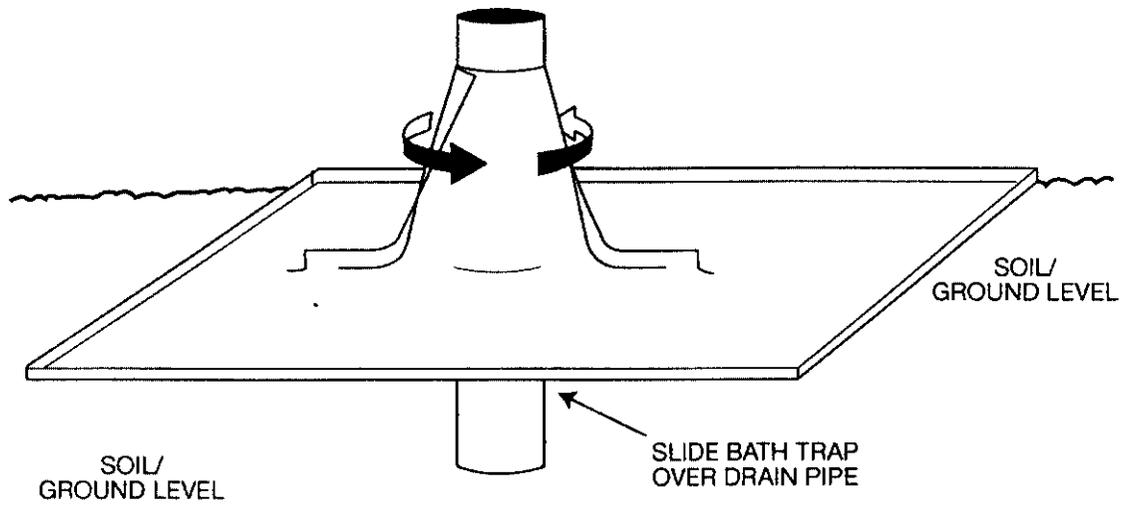

Figure 8
STEP 2. Install Impasse Termite Blocker-Bath Trap placing the conical section of the Termite Blocker-Bath Trap over the utility penetration, cutting the top of the conical section to fit tightly over the pipe. Slide the Impasse Termite Blocker-Bath Trap down to the soil surface. Position the rectangular portion of the Impasse Termite Blocker-Bath Trap so that it will be totally embedded in concrete and no soil surface will be visible after the outer container is later removed (see Figure 8).
Before securing the two cable ties, fold the seams of the conical section so they lay flat against the pipe penetration (see Figure 8).